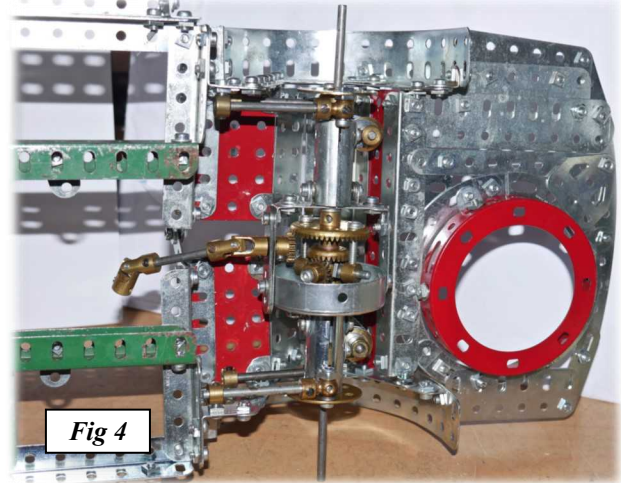

Fig 4
**Chassis & Suspension:** The DB4 doesn't have a conventional ladder frame chassis, just plated box sections from the front to behind the gearbox and 6" deep sill sections under the doors. The rear section is made up of welded plates. In *Fig.4* the
having a 16" diameter wheel. The rear suspension detail is shown in (Fig.4).